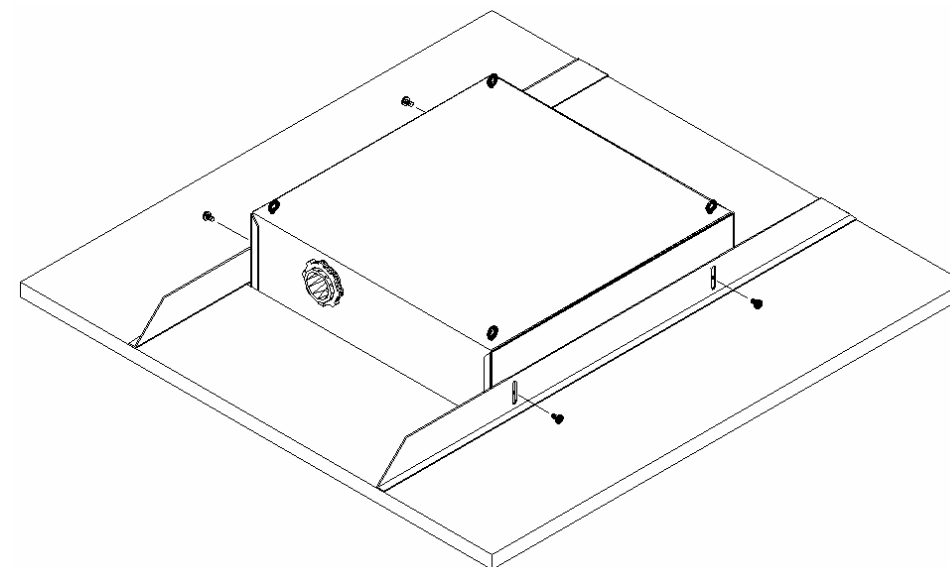

Figure 3 - Installation to ceiling tile.
Step 3 – Lay ceiling tile over the enclosure assembly such that the previously cut opening in the ceiling tile equally spaced around the outside of the enclosure (ref. *Figure 3*). Place the ceiling tile bridges along each side of the enclosure and attach using a #8-32 screw. Prior to tightening, be sure to properly align the tile bridges so the ends of the tile bridges align with the outside edge of the ceiling tile. Once the tile bridges are properly aligned, press the shoulder of the tile bridge down firmly against the tile and then securely tighten the screws. This is to assure that there is minimal gap between the enclosure's flange and the ceiling tile once it is placed in the ceiling.